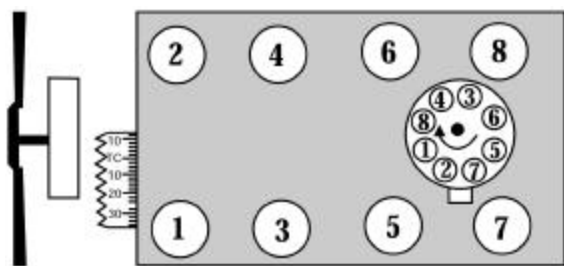

Figure 1 - 350-400 c.i.d Chevrolet V8
9. Remove distributor cap and wires, rotate engine until rotor points towards number 1 terminal in cap and pointer on front cover is on top dead center (TDC) and remove distributor (See Fig. 1). Make a note of the approximate position of the distributor housing in relation to the manifold to assist in getting the distributor properly located during re-installation.
1. Turn the engine over in direction of rotation until the No. 1 intake valve closes and continue until the pointer on the front cover is approximately five degrees before top dead center (BTDC) (See Fig. 1 for firing order).